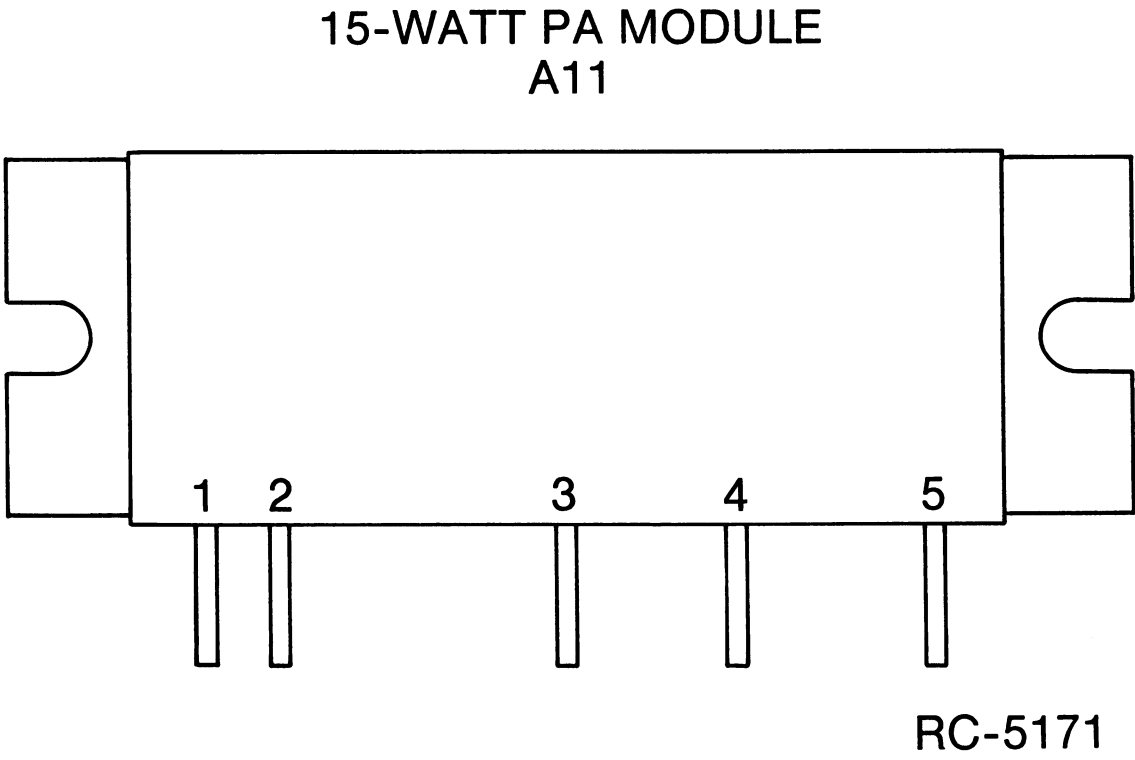

Figure 2 - Lead Forming & Identification
1. Remove two screws securing A11 to printed wire board (See Figure 2).